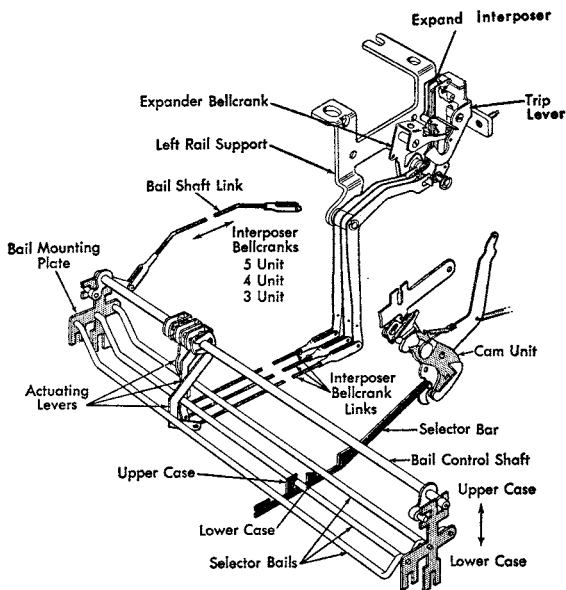

Figure 1. Escapement Selector Mechanism
2. BAIL SHAFT LINK. Adjust so that the bail mounting plates will move to their upper extreme (upper case) and not bind off on the bail control shaft (Figure 1). When the mounting plates are in the lower extreme (lower case) they should not bind off on the bail mounting plate guide pins.
10. INTERPOSER BELLCRANK LINKS. (Figure 1). Adjust as follows: Type the "i" key repeatedly and move a 3-unit typebar slowly toward the platen. The spacing should increase from 2 to 3 units when the 3-unit typebar is one-half to two-thirds of the distance to the platen. This procedure should also be used to check the 4-unit and 5-unit interposer bellcrank links,